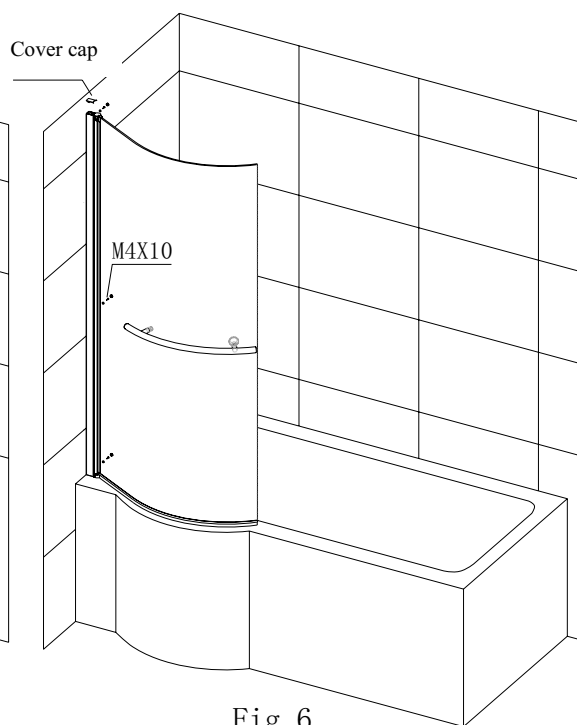

Fig. 6
- 6) Use the M4x10 screws to connect the pivot doors with the wall profiles .As Fig.6